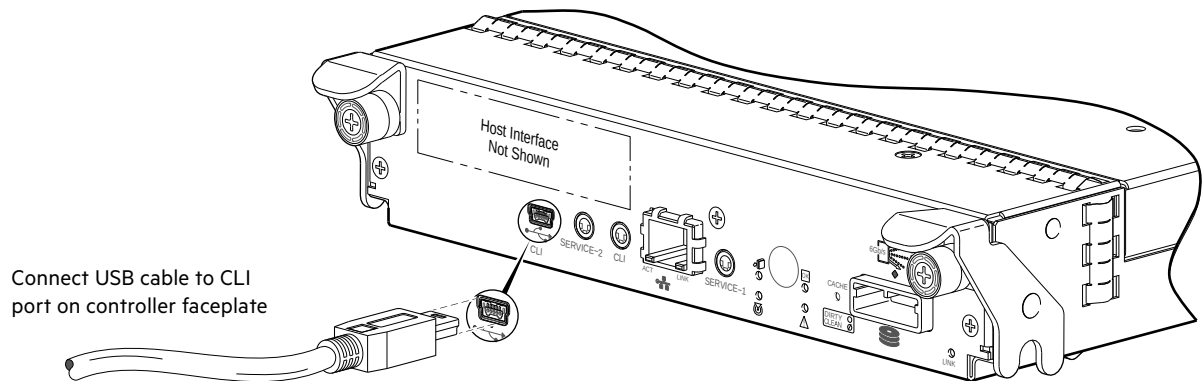

Figure 20 Connecting a USB cable to the CLI port
Once attached to the controller module as shown in Figure 20 \(page 34\), the management computer should detect a new USB device. Using the Emulated Serial Port interface, the controller presents a single serial port using a *vendor ID* and *product ID*. Effective presentation of the emulated serial port assumes the management controller previously had a terminal emulator installed (see Table 3). MSA 1050 controllers support the following applications to facilitate connection.
2. Use the provided USB cable to connect controller A to a USB port on a host computer. The USB mini 5 male connector plugs into the CLI port as shown in Figure 20 (generic controller module is shown).